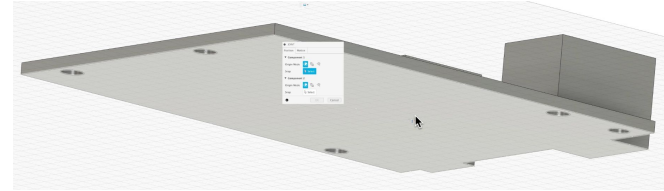

Figure 1.5
- To create a '**Rigid**' joint, first select a reference point on your component, such as the '**bottom center of the Arduino board**' (see Figure 1.5) and then select a corresponding point on the '**assembly's origin plane**'. Once you've chosen the bottom center, the Arduino will appear greyed out, indicating that no additional points can be selected.